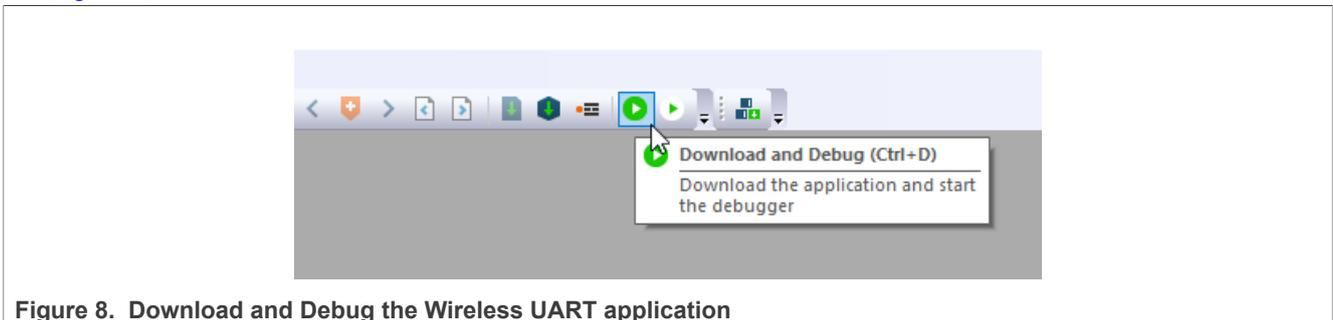

Figure 8. Download and Debug the Wireless UART application
6. Click the **“Download and Debug”** button (or **CTRL+D**) to flash the executable onto the board, as seen in Figure 8.